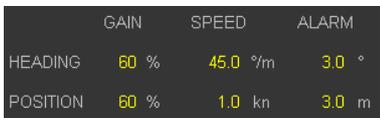

Figure 61: Alarm Limit Display
1. Locate the Alarm Limit Display in the lower left of the MAP screen (*Figure 61: Alarm Limit Display* on page 67), in the position settings display area.